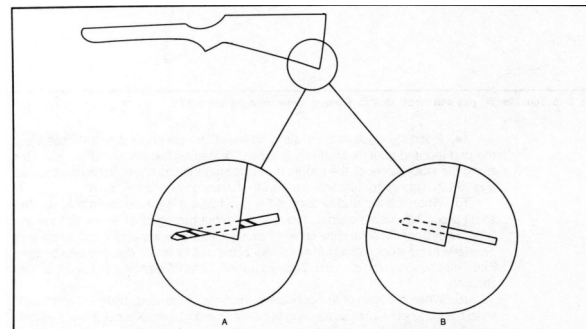

Fig. 6-18. A: Incorrect. B: Correct. Keep drill parallel to bottom of stock.
9. Drill with #31 drill the depth of the recoil pad screws at the locating dimples you made on the butt by tapping the screws with the hammer. Drill the bottom screw hole parallel to the bottom of the stock (Fig. 6-18) to make sure the bottom hole does not come through the bottom of the stock.